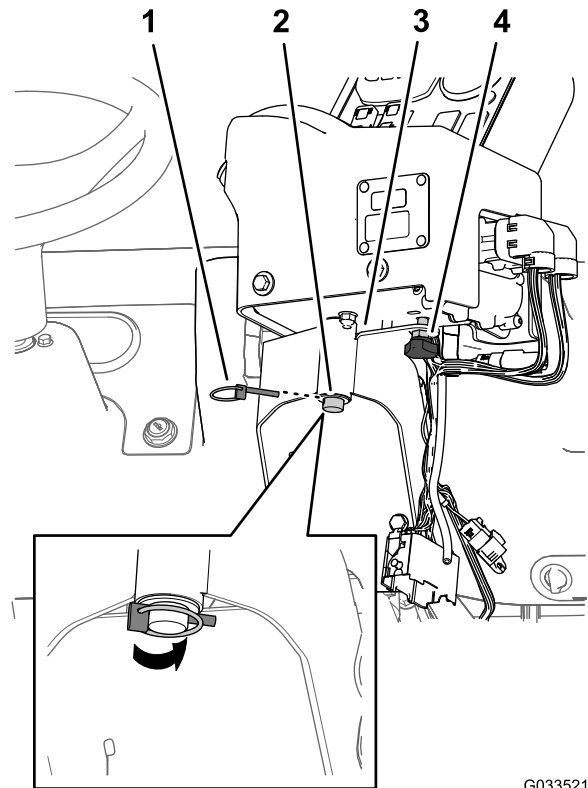

Figure 18
- Install the control console onto the control mounting bracket and secure the control console with the spring-clip pin (Figure 18).
- Install the hand knob and tighten it to prevent the console from rotating during operation (Figure 18).